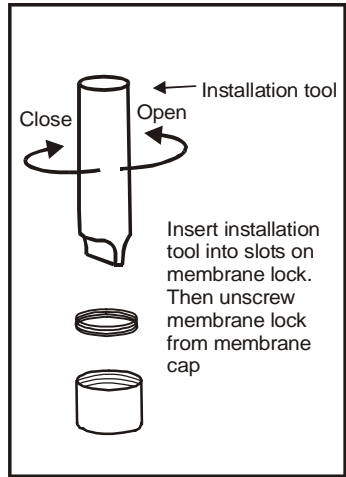

Figure 36: Use installation tool to take out (or put in) membrane
5. Using the installation tool, unscrew and remove the membrane lock from the membrane cap. See Figure 36.